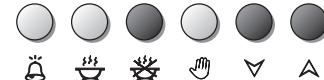

Fig. 13
2. Set the time you need the food to stop cooking by pushing the  button and the  button to advance, or  to go backwards if you have passed the desired time (Fig. 13).